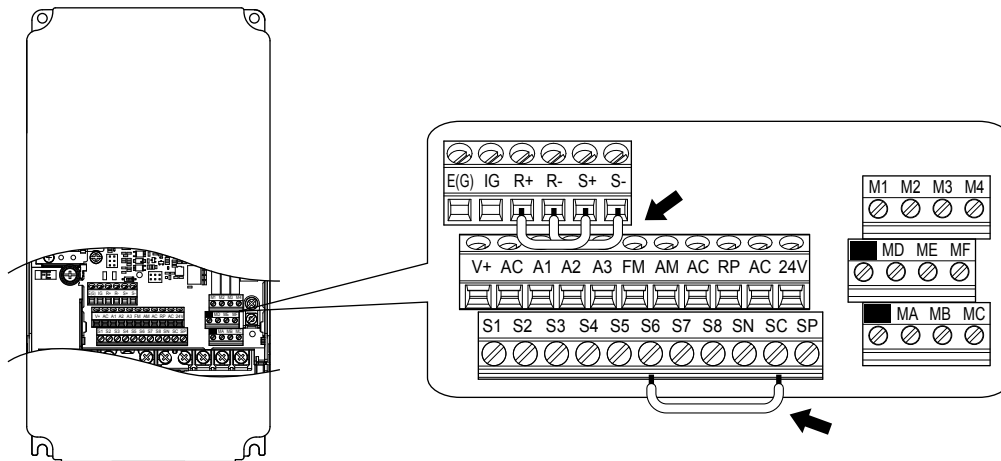

Figure C.7 Terminal Connections for Communication Self-Diagnostics
4. With the power off, wire the drive as shown in Figure C.7, connecting terminals R+ and S+, R- and S-, and S6 and SC.